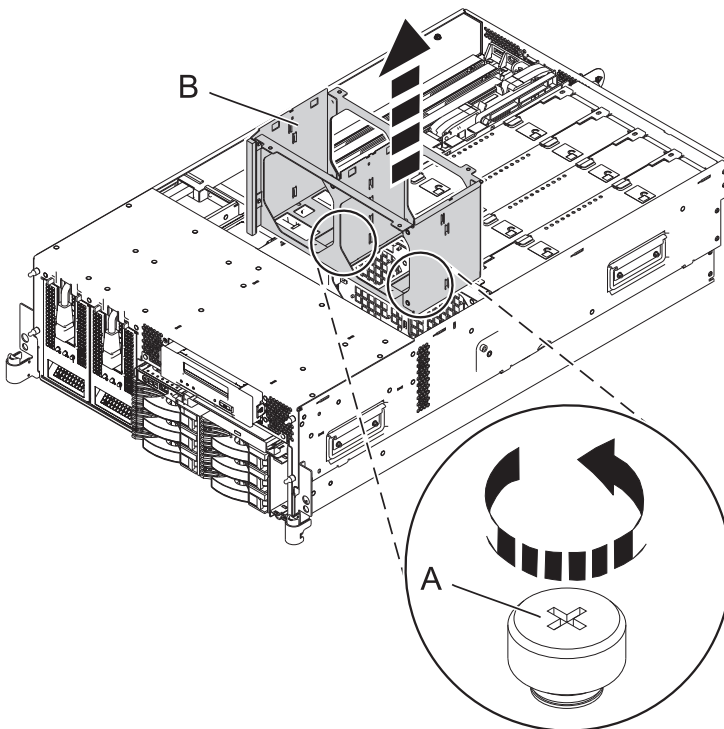

Figure 11. Removing the fan cage from the 8204-E8A or 9409-M50 system
- 3) To remove the fan cage, loosen the two thumbscrews (A) and lift the fan cage (B) out of the system as shown in Figure 11.